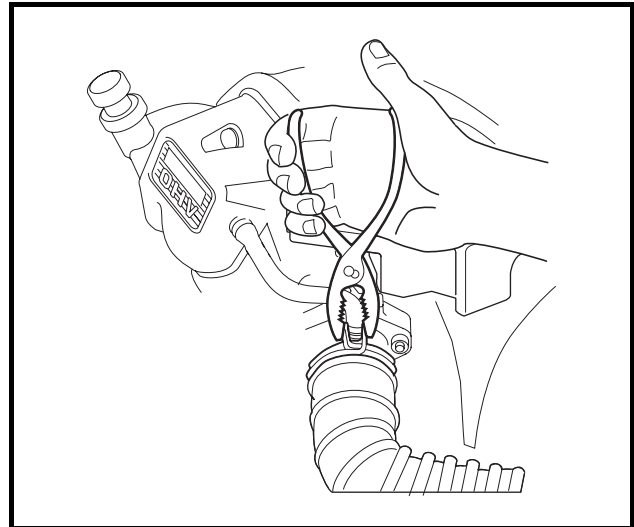

Figure 18-10 Air Intake Hose
- Disconnect the air intake hose from the carburetor (**Figure 18-10, Page 18-7**).